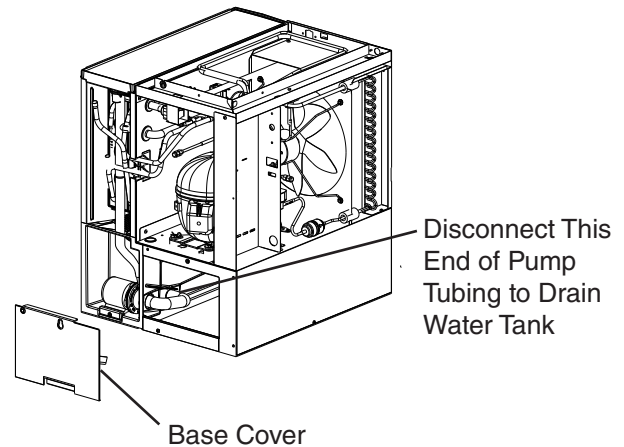

Fig. 6
- 3) Drain the water tank. Remove the base cover, then disconnect the water tank end of the pump tubing to drain the water tank. See Fig. 6. After the water tank has drained, reconnect the pump tubing.